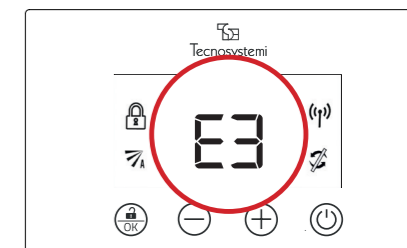

Fig 20
2. No communication between control unit and motor. Accompanied by the green LED, it symbolises probable failure of the wiring, plug or use of non-compliant cables (as indicated in the manual). Contact the installer or possibly technical assistance. (Fig.20)